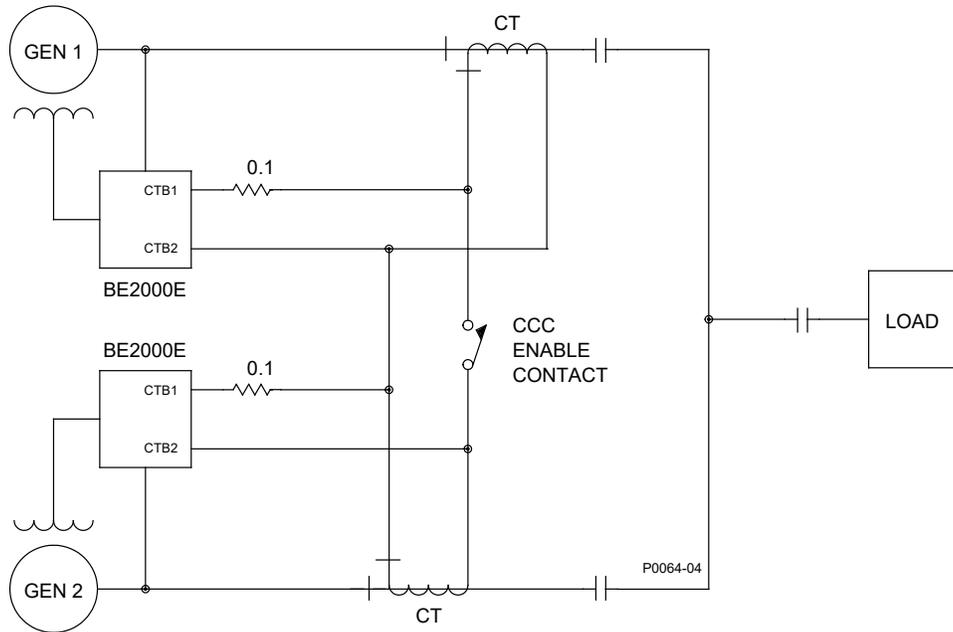

Figure 4-9. Cross-Current (Reactive Differential) Connections for Two Generators
Figure 4-9 illustrates the connection of two BE2000E devices used in a Cross-Current (Reactive Differential) application. Note that the 0.1 ohm resistor shown may have to vary. When operating in parallel reactive differential mode (cross current), attention must be paid to the use of the burden resistor shown in Figure 4-9. The burden resistor should have a value approximately 10 times the cross current loop resistance for proper differential operation. The value of 0.1 ohm is a suggested value. The volt-ampere (VA) capacity of the paralleling current transformers should be considered after sizing the burden resistor.